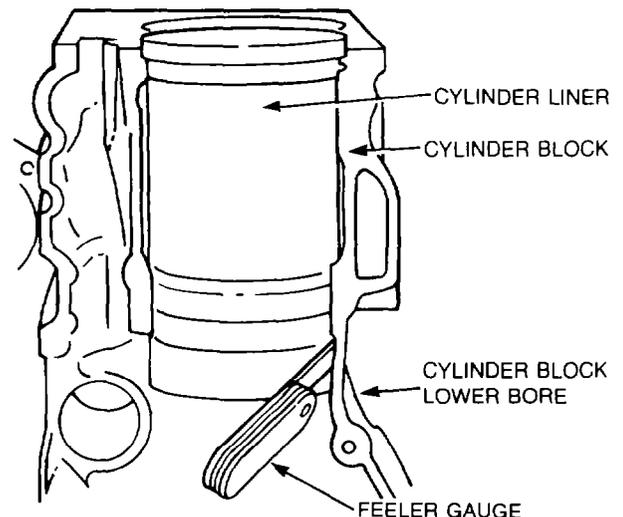

Figure 22 — Measuring Cylinder Liner to Lower Cylinder Block Clearance
- v. Measure and note the clearance between the cylinder liner and the lower cylinder block bore using a suitable feeler gauge (see Fig. 22). The maximum allowable clearance is 0.15 mm (0.006 in.), it is permissible for the cylinder liner to be in contact with the cylinder block lower bore, if it does not cause the cylinder liner to be out-of-round. Replace the cylinder liner as necessary.